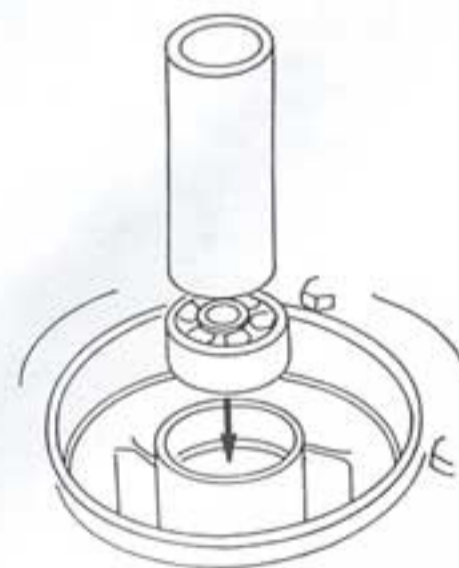

Fig. 4
- Install the new hub bearing cups using Tool No. 100014 (tube) and a hammer (fig. 4).